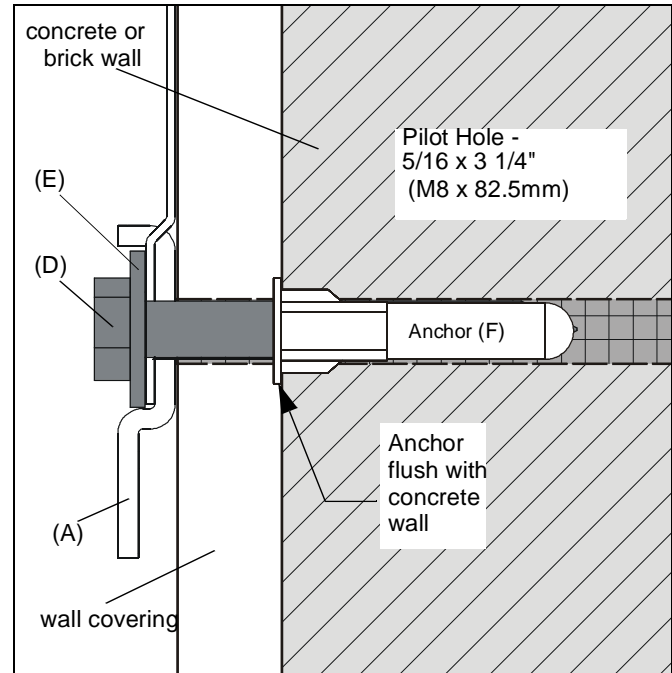

Figure 6
4. Install four or six concrete anchors (F) into drilled holes. Use a hammer to tap anchors into holes. (See Figures 6 and 7)
IMPORTANT ! : The anchors must be installed through any wall covering until flush with the concrete wall. (See Figure 6)